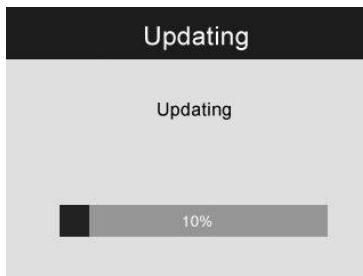

Fig. 29
- 4) Press **Power** button to turn on the tool and then press **UP** button until the update screen pop up, select **YES** to upgrade the tool (*Fig. 29*).